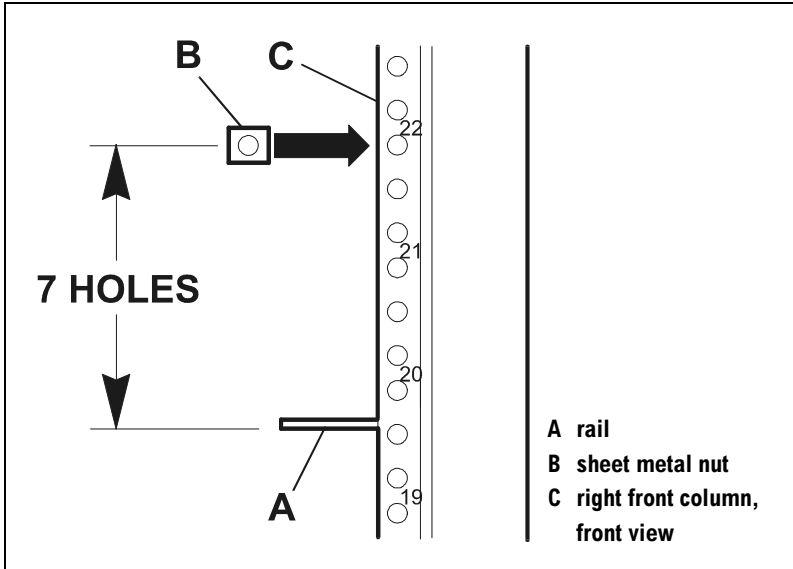

Figure 26 Rack Front Preparation: Mid-Unit Rail Position
- If the bottom of the rail (A in Figure 26) lies between EIA numbers, count seven holes up from the rail ledge and install the sheet metal nut.